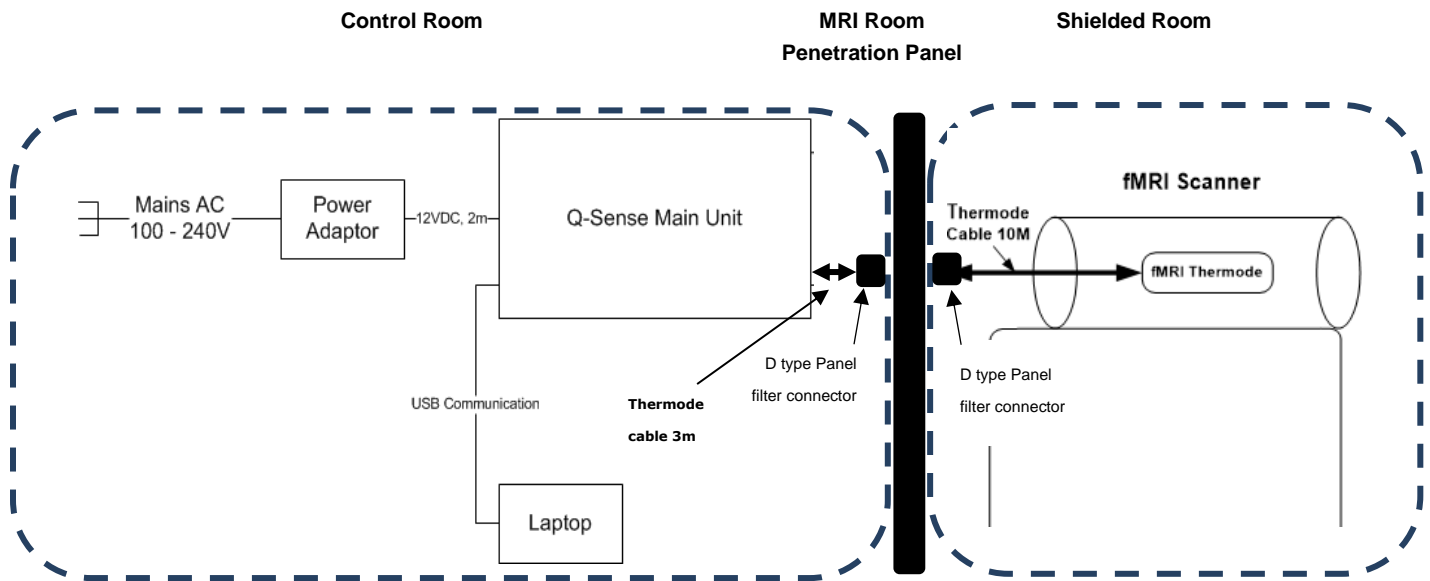

Figure 115- fMRI room setup
4. Connect the required devices and accessories, as described in Figure 115